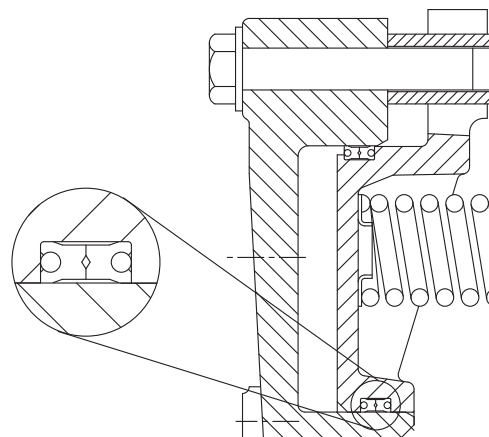

Figure 17
4.6.4 Insert new seals into the grooves, noting the orientation of the seals per Figure 17.